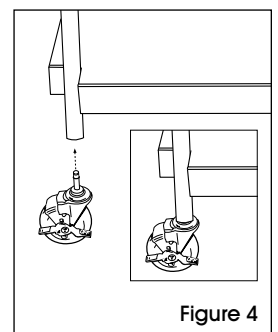

Figure 4
1. Remove rubber feet from the end of the uprights and insert optional casters. Casters will click once inserted. (See Figure 4)